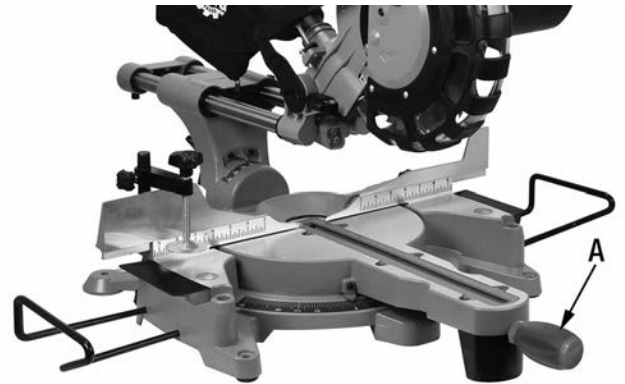

FIGURE 17A
1. Loosen miter locking knob (A) Fig.17A. While holding the miter locking knob, move the saw table to the desired angle. Tighten miter locking knob.